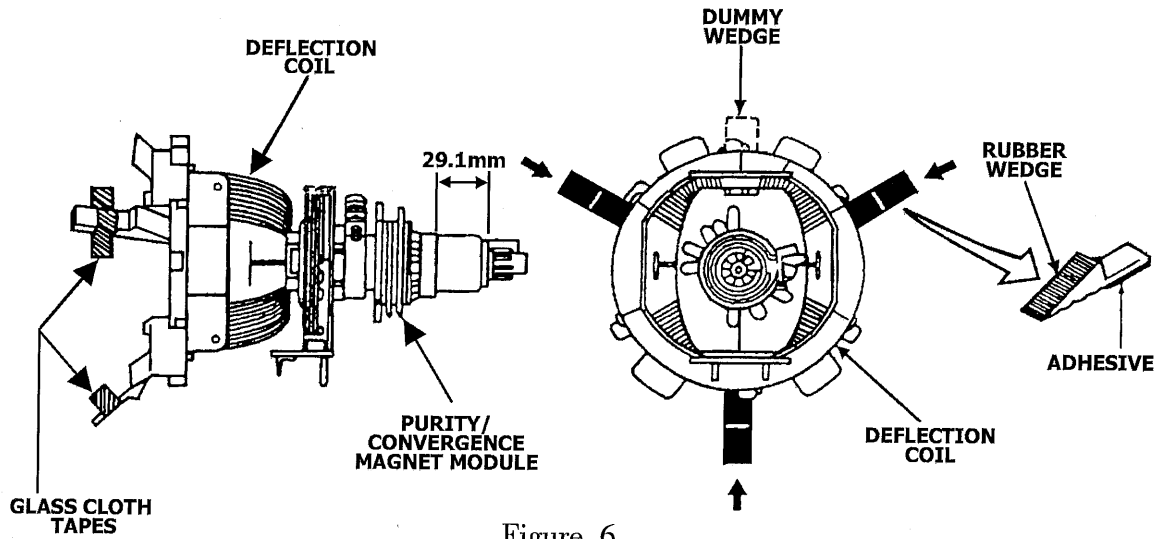

Figure 6
Note: The PURITY/CONVERGENCE MAGNET assembly and rubber wedges need mechanical positioning. Refer to figure 6.
2. Temporarily put a wedge as shown in figure 6. (Do not remove cover paper on adhesive part of the wedge.)
9. Stick three adhesive tapes on wedges as shown in figure 6.